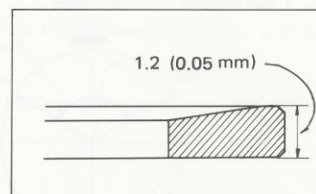

Fig. 8. Thin keystone ring
- Keystone-type steel rings, sized thinner, are used in the engine of Model RM125A for its 1st and 2nd rings. See Fig. 8.